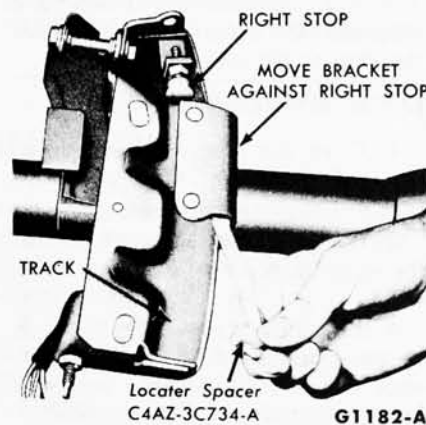

FIG. 11—Removing or Installing Locator Spacer
6. Position the selector lever in the hub and secure it with a roll pin. Install the nylon locating spacer on the track (Fig. 11).
5. Install the spacer shown in Fig. 11. Secure the column to the track with the two attaching bolts. Be careful when tightening the two column attaching bolts so as not to create a bind in the track.